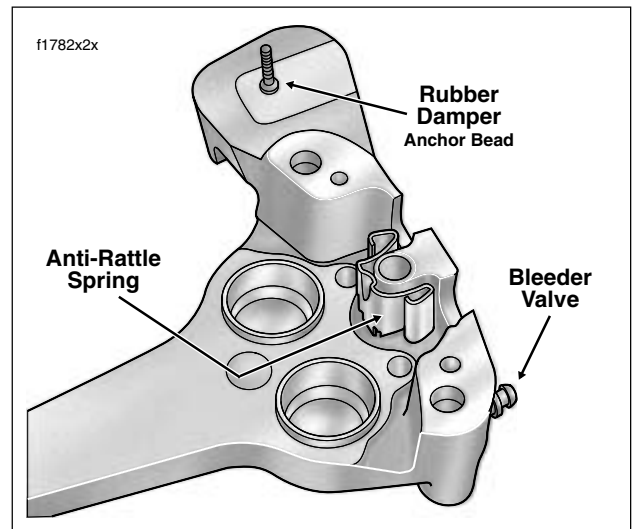

Figure 2-67. Install Anti-Rattle Spring
- b. Place outside caliper housing on workbench with decal side down. Place anti-rattle spring in channel around boss. Spring is not directional. See Figure 2-67.
- e. If rubber damper was removed, lubricate anchor of **new** damper with isopropyl alcohol or glass cleaner and install by pulling rubber bead through hole in outside caliper housing, as shown in Figure 2-67.
If pad pins do not fit, verify the following: (1) Proper pad set is being used, not two identical pads. (2) Anti-rattle spring is installed as shown in Figure 2-67. (3) Pads are pushed tight against anti-rattle spring.